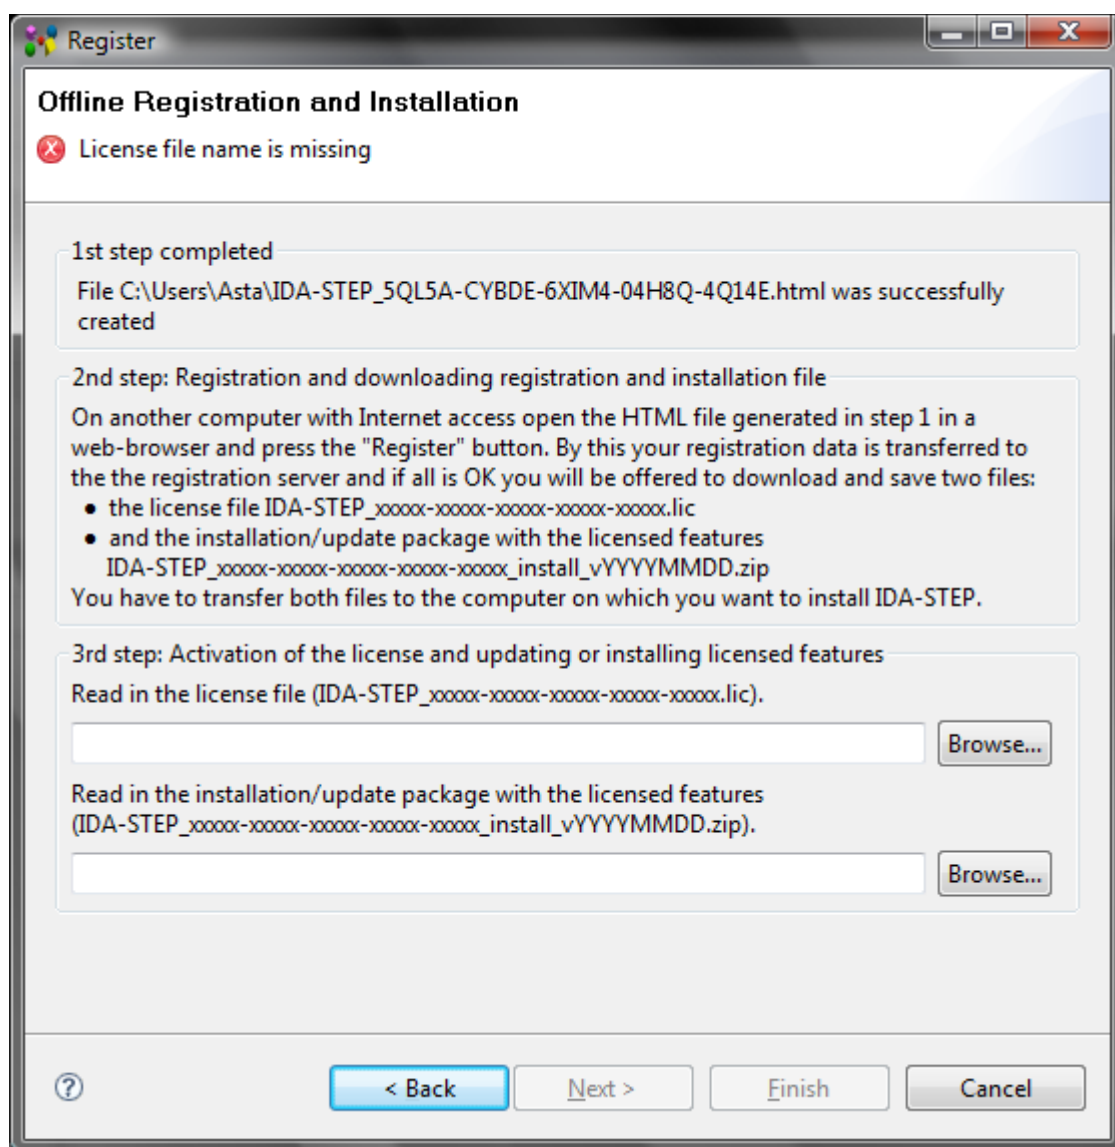

Figure 9. Offline Registration and Installation wizard page to select license file and installation/update package
- Press **Next** button to go to the next page of the wizard (see Figure 9). After the **Next** button is pressed the HTML file is generated and located in the selected place (in our example 5QL5A-CYBDE-6XIM4-04H8Q-4Q14E.html).